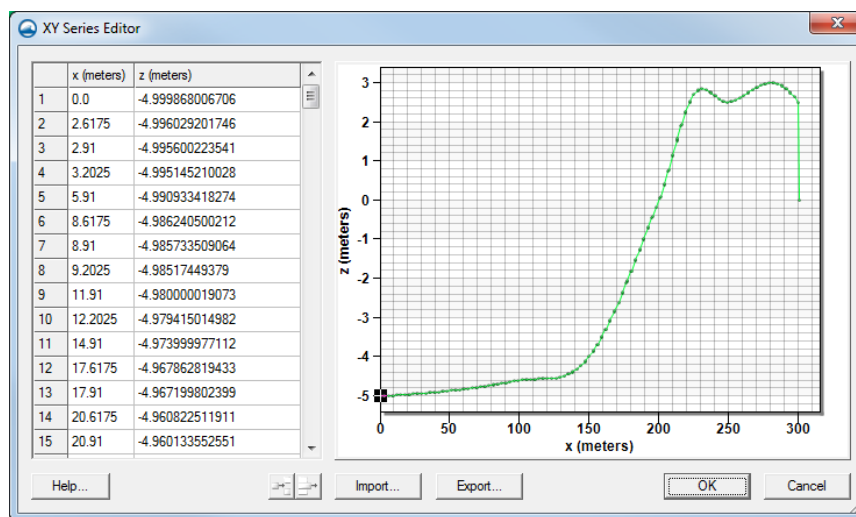

Figure 13 The XYZ Series Editor dialog showing information from one transect
2. Using the **Select Feature Arc**  tool, right-click on one of the transect arcs and select **Arc Attributes...** to bring up the *XY Series Editor* dialog (Figure 13).